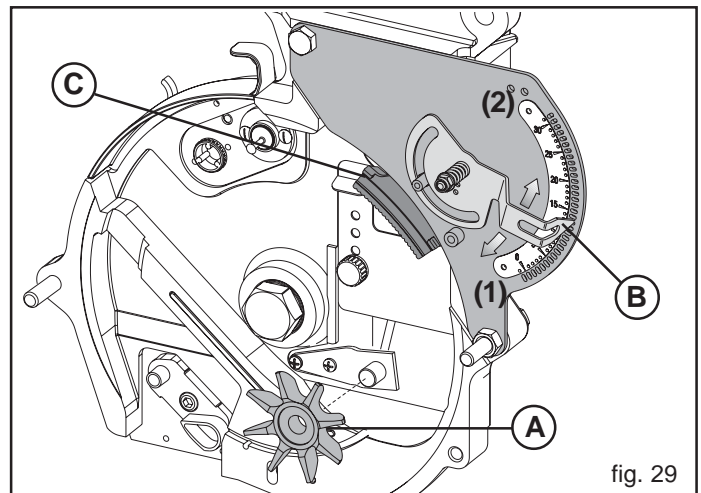

fig. 29
The Manufacturer provides a (disassembled) seed agitator for each distributor, as part of the standard supply (A, Fig. 29). The agitator remixes the seeds inside the body of the distributor in order to facilitate continuous, even seed distribution. Only fit the seed agitator for the distribution of specific types of seed or when distribution is uneven.
When the indicator (B Fig. 29) is moved, it commands a cursor (C Fig. 29), which slightly touches the plate near the holes, causing the excess seeds to fall.
The selector is adjusted at each seed and plate change, towards the lower numbers for small seeds (1 Fig. 29) and vice versa for big seeds (2).
**IMPORTANT: The selector does not adjust the air flow in the distributor; replace the cursor (C, Fig. 29) when the seeding configuration is changed (single or double row seeding).**